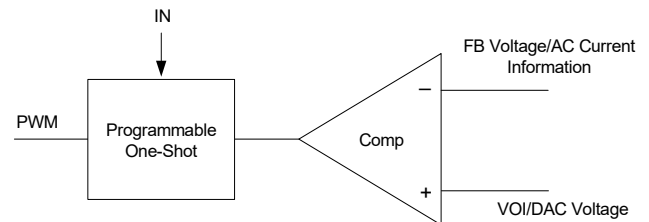

Figure 9. Simplified Control Schematic
The control algorithm of AOZ2233CQI-22 is constant-on-time PWM control with input feed-forward. The simplified control schematic is shown in Figure 9. The high-side switch on-time is determined solely by a one-shot whose pulse width is inversely proportional to input voltage (IN). The one-shot is triggered when the internal VOI/DAC voltage is higher than the combined information of output voltage and the AC current information of inductor, which is processed and obtained through the sensed low-side MOSFET current once it turns-on. The added AC current information can help the stability of constant-on-time control even with pure ceramic output capacitors, which have very low ESR. The AC current information has no DC offset, which does not cause offset with output load change, which is fundamentally different from other V^2 constant on-time control schemes.